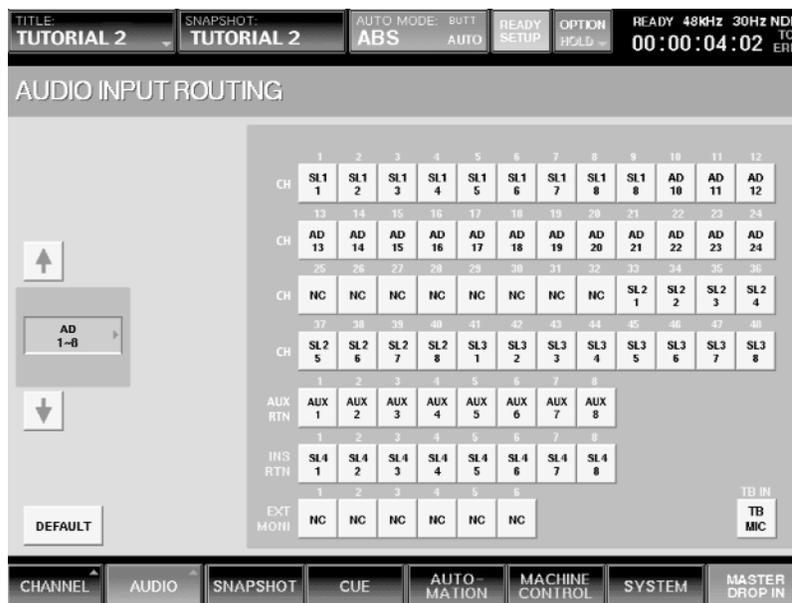

Figure 1
- 5 Go to the Input Routing window and press the Default button. Then go to the Output Routing window and do the same. (See Figures 1 and 2 in Tutorial #1)
- 6 In the Input Routing window, assign Slot 1, tracks 1 - 8, to Channels 1 - 8 and also assign Slot 1, track 8 to Channel 9 (this will set up a mult of track 8). Then assign NC (No Connect) from the MISC Source menu to Channels 25 - 32; this is to eliminate duplicate (multed) routings of Slot 1, tracks 1 - 8. The Input Routing window should now look like this: (See Figure 1)